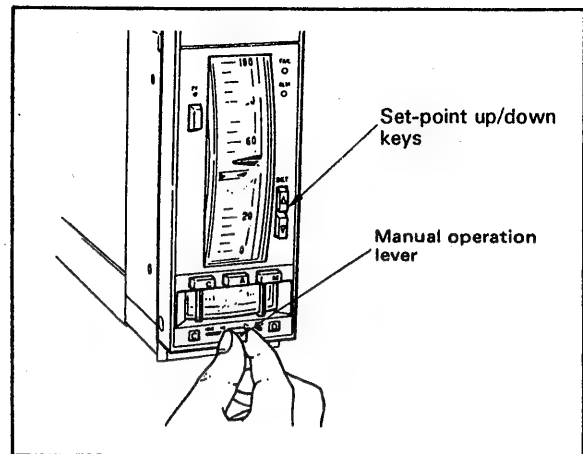

Figure 5-3-2. Manual Output Operation.
- b. Adjust the manipulated output signal by moving manual operation lever to the left or right. (See Figure 5-3-2.)
- c. Set a desired setpoint by using the set-point up/down keys. (See Figure 5-3-2.)